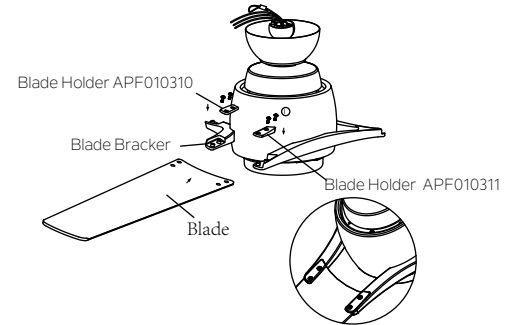

Fig. 9
Step 5. Attach each blade to blade bracket, insert the screws into the blade holder APF010311 and blade bracket APF010310, through the blade and into the blade bracket, securely tighten the four screws. (Fig. 9)